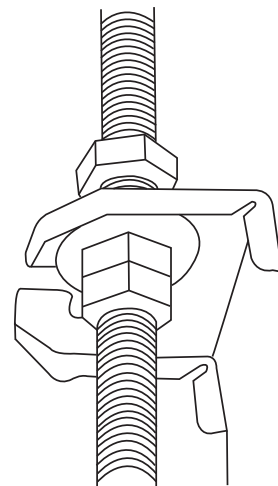

Fig. 4.9
- Mount the indoor unit. You will need two people to lift and secure it. Insert suspension bolts into the unit's hanging holes. Fasten them using the included washers and nuts. (See Fig. 4.9).